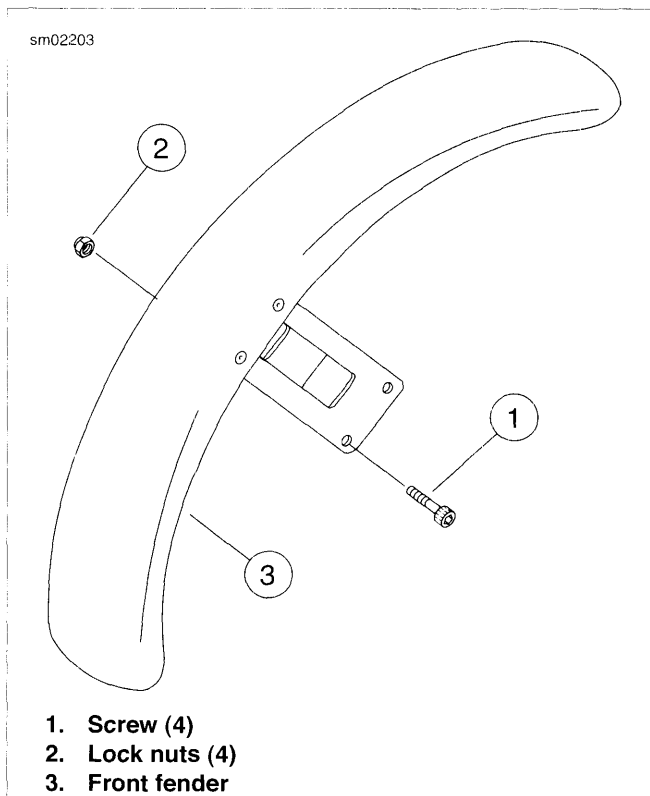

Figure 2-223. Front Fender: XL Models
1. See Figure 2-223. Remove four screws (1) and lock nuts (2) to detach front fender (3) from front fork sliders.
1. See Figure 2-223. Carefully position front fender (3) between right and left front fork sliders.
2. Secure fender using four screws (1) and lock nuts (2). Tighten to 96-156 **in-lbs** (10.9-17.6 Nm).